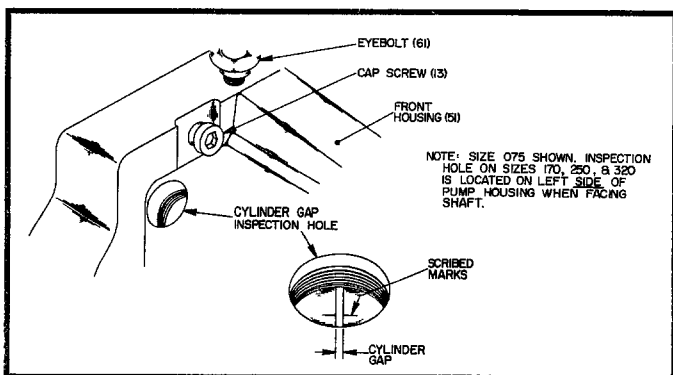

Figure 5. Cylinder Gap Inspection Hole (509464 sh. 2).
See Figure 5. Prior to removal of rear housing (14) remove cylinder gap inspection plug (82). Using a feeler gauge, measure the amount of cylinder gap between the scribe marks. **Record this measurement as "Dimension A" for use during inspection and assembly steps.**
After housing screws are pulled up tight, cylinder gap (see previous Figure 5) must be measured with a feeler gage.